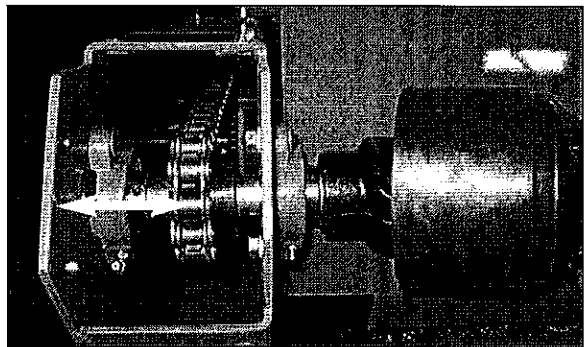

Figure 29
2. For each sprocket, measure from inside the fixed chain shield to the center of the chain (Figure 29).